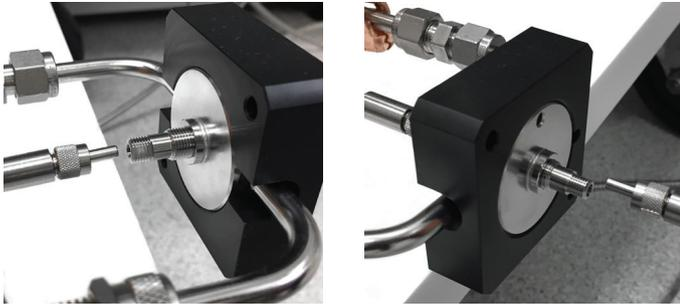

Figure 5. Connecting the fiber optic cables to the flow cell.
- b. Insert the cable into one of the fiber optics fittings on the flow cell and finger-tighten; see Figure 5.